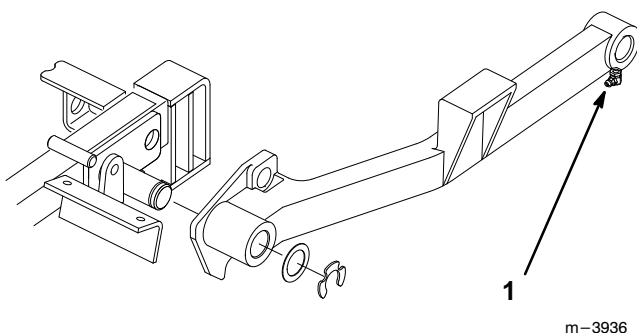

Figure 30
2. Grease the fittings on push arms (Fig. 30).